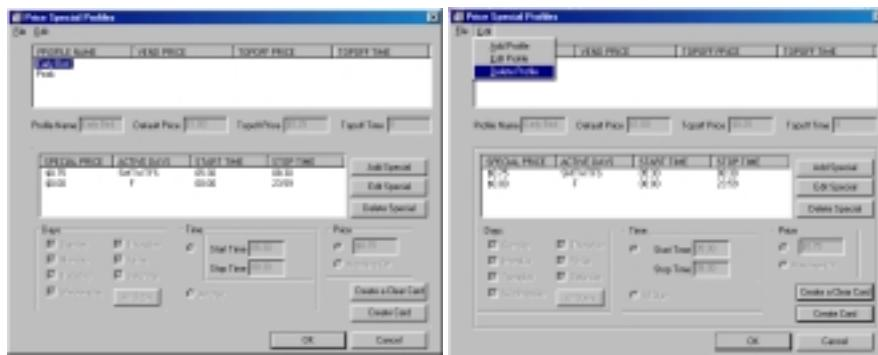

Figure 8.20 Deleting a Price Special Profile
1. In the Price Special Profile window select the Profile to edit from the Profiles List Window (Figure 8.20).
2. Select Delete Profile from the edit drop-down menu (Figure 8.20).